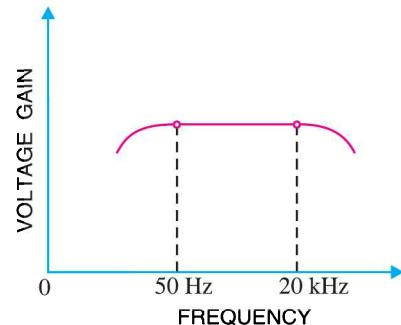

Fig. 11.10
**Frequency response.** Fig. 11.10 shows the frequency response of a typical *RC* coupled amplifier. It is clear that voltage gain drops off at low ( $< 50$  Hz) and high ( $> 20$  kHz) frequencies whereas it is uniform over *mid-frequency* range (50 Hz to 20 kHz). This behaviour of the amplifier is briefly explained below :